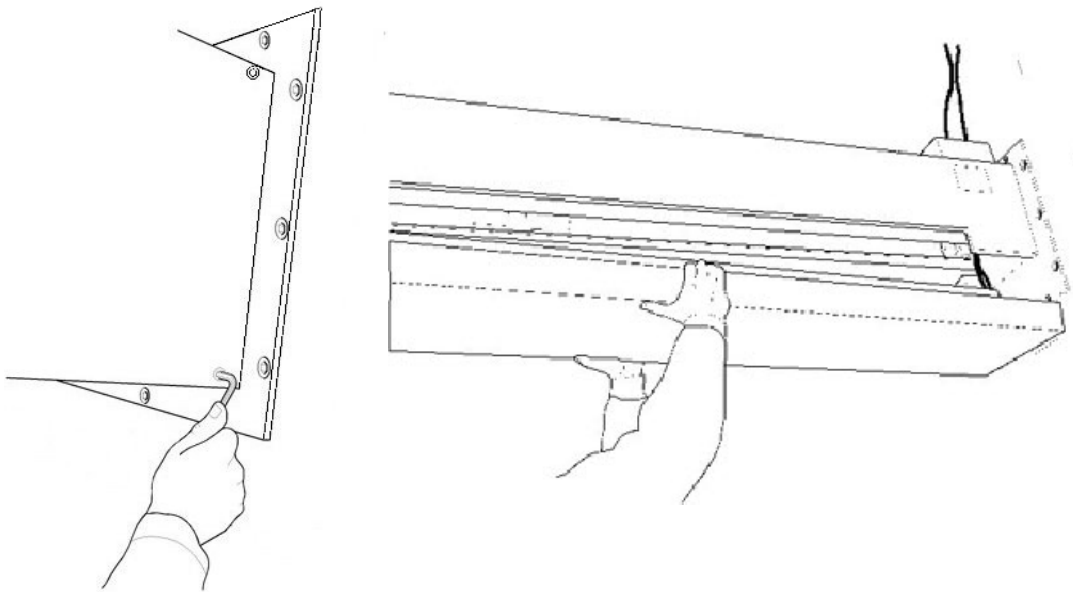

Fig. 5-12 Removing upper safety guard
4. Unbolt the upper safety guard taking care to remove it first from the base and lifting as shown in Figure 5-12.